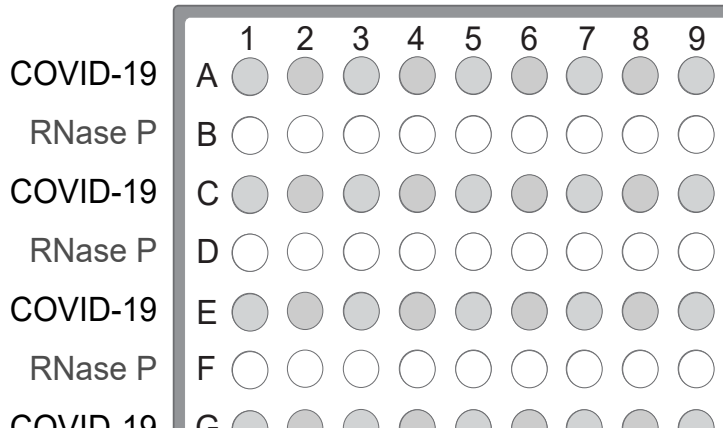

Figure 5 Assays in alternating plate rows
- a. Starting with row A, pipet 20.0 μ L per well of the COVID-19 Reaction Mix into every other row of a MicroAmp™ Fast Optical 96-Well Reaction Plate with Barcode, 0.1 mL or a MicroAmp™ Optical 96-Well Reaction Plate with Barcode, 0.2 mL. See Figure 5 on page 57.